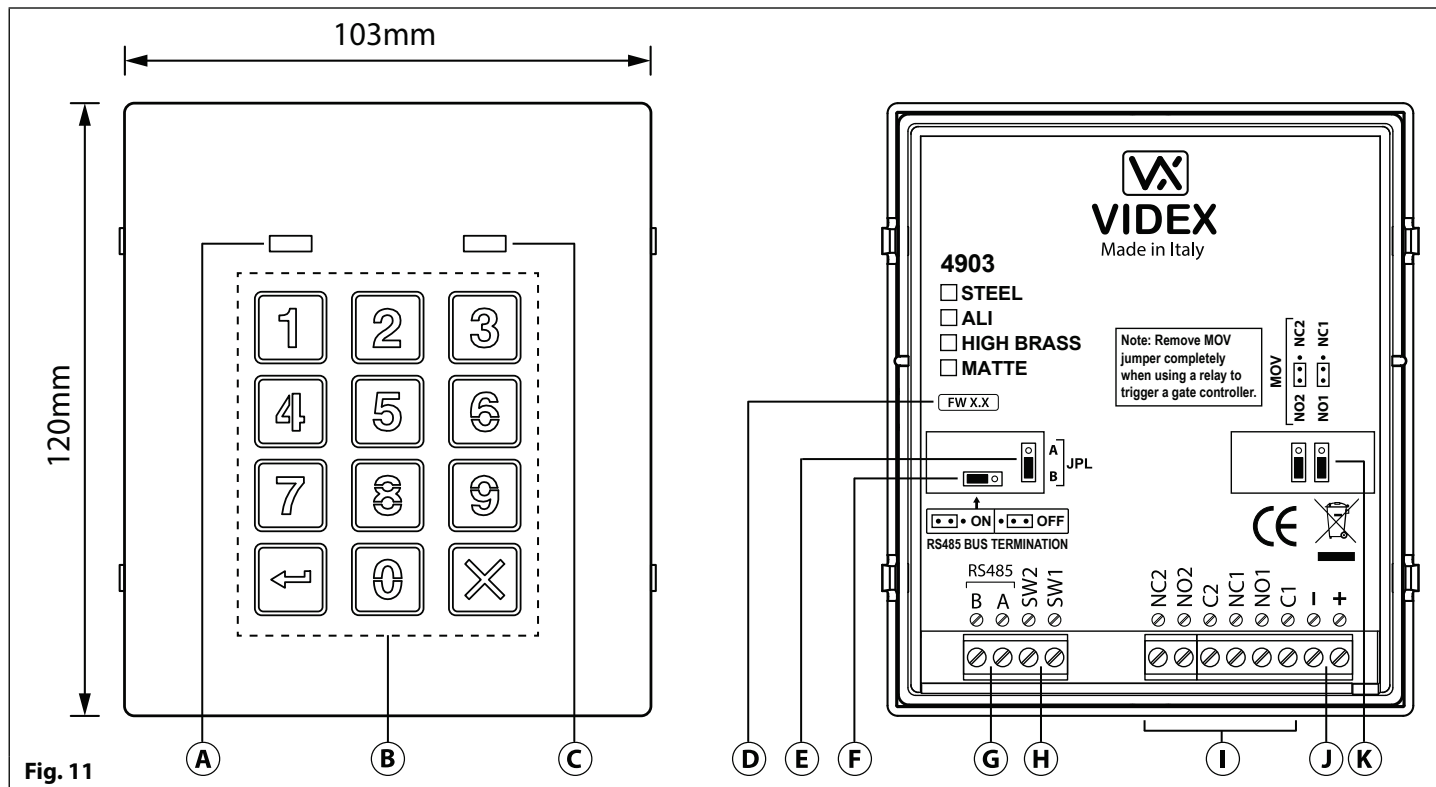

Fig. 11
The module features 12 stainless steel buttons, backlit in blue (keys 0-9, ENTER and CLEAR) , 2 LED's (green LED = data, red LED = status indication) for progress information during use and programming and a stainless steel or aluminium front plate, see Fig.11. With two integral relays (RLY1 and RLY2) each with common (C), normally open (NO) and normally closed (NC) connections and two switched 0V push to exit inputs SW1 and SW2 to enable the external triggering of the relays. Key presses are signalled acoustically while each button press has a tactile feel. Entering the correct code followed by ENTER will activate the relevant relay.
The jumper JPL (**Fig.11, (E)**) is used to adjust the brightness and determine the operation of the backlit buttons. There are four brightness settings for the backlit buttons and two programming modes (mode 1 and 2) for the jumper.
4. When power is restored to the codelock wait for the module to emit a single beep and the red status LED (**Fig.11, (C)**) to flash once;
5. Listen for the confirmation tone and wait for the red status LED (**Fig.11, (C)**) to flash once again;
4. When power is restored to the codelock wait for the module to emit a double beep and the red status LED (**Fig.11, (C)**) to flash once;
3. When power is restored to the keypad the backlit key buttons will illuminate (**Fig.11, (B)**). Wait for the keypad to emit a low level tone then wait for the red status LED (**Fig.11, (C)**) to switch ON;
4. Release the 0  button then enter the unit ID required for the Art.4903 (1 - 8) using the keypad (**Fig.11, (B)**). The red status LED will switch OFF and the keypad will play a short melody. Observe the red status LED (**Fig.11, (C)**) as this will flash as many times as the unit ID being set (e.g. if the unit ID is set to ID.8 the red status LED will flash 8 times);
4. When power is restored to the code lock wait for the module to emit a beep and wait for the red status LED (**Fig.11, C**) to stop flashing;